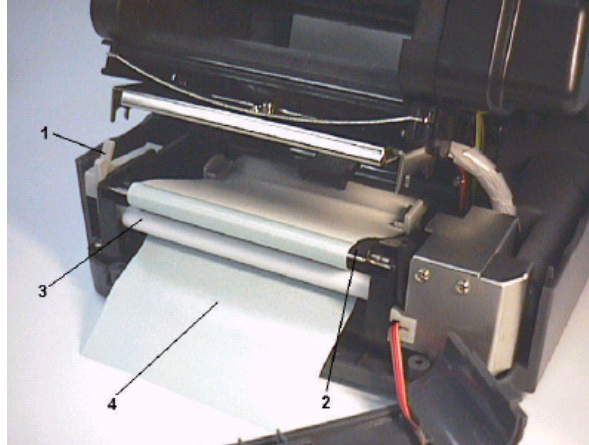

Figure 13. Setting up printer for self-peeling function
- Feed the backing paper between the platen and the white "self-peeling" roller, *as shown in Figure 13.*